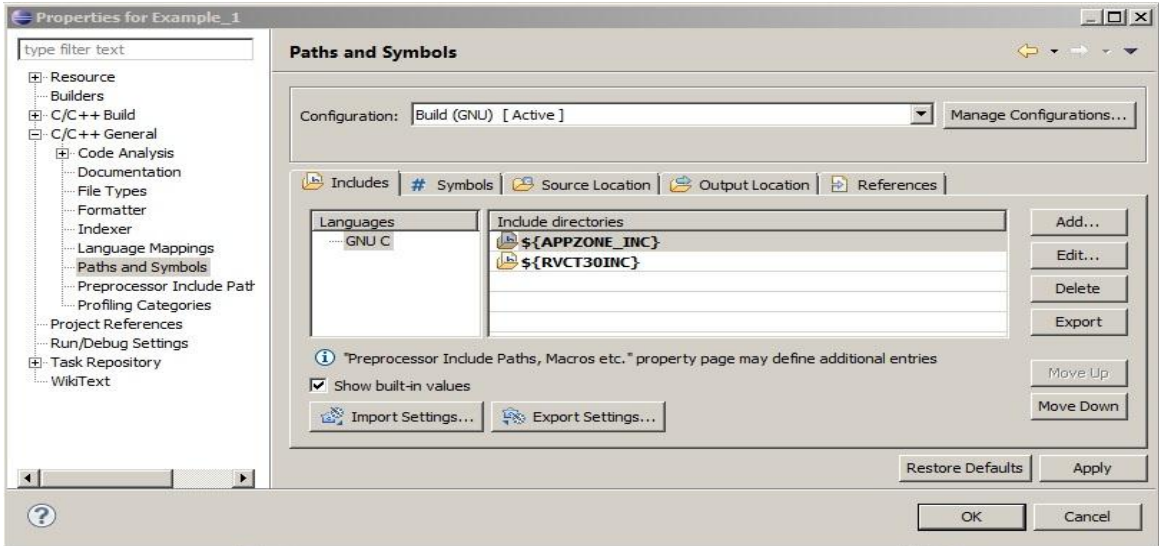

Fig. 9: Eclipse: Paths and Symbols
- Select Properties→C/C++ General→Paths and Symbols. You see the following variables: `#{APPZONE_INC}`, `#{RVCT30INC}`, refer to Fig. 9.